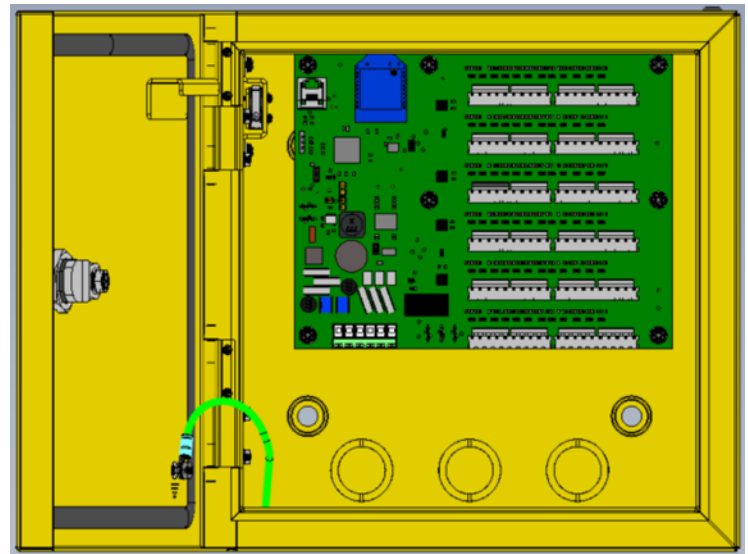

Figure 3
**Pull the necessary wires** through the wire hole on the back of the housing as shown on Figure 3.